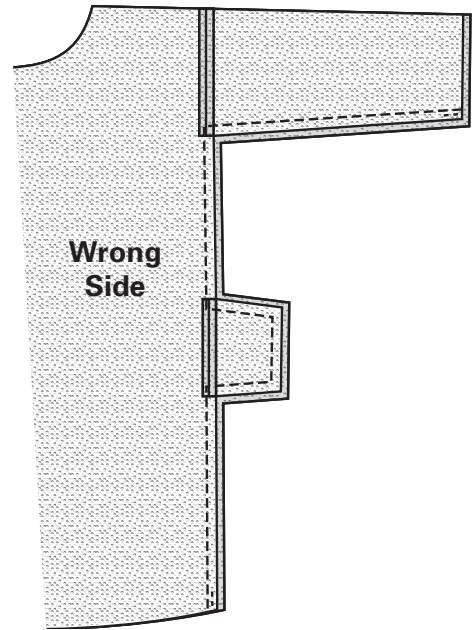

Fig. 4-9
17. Beginning at the end of the sleeve, sew the underarm seam, continuing down the side, around the pocket outer edges and down the side to the lower edge. Backstitch at the beginning and ending of each seam. (Fig. 4-9) Repeat for the remaining side.